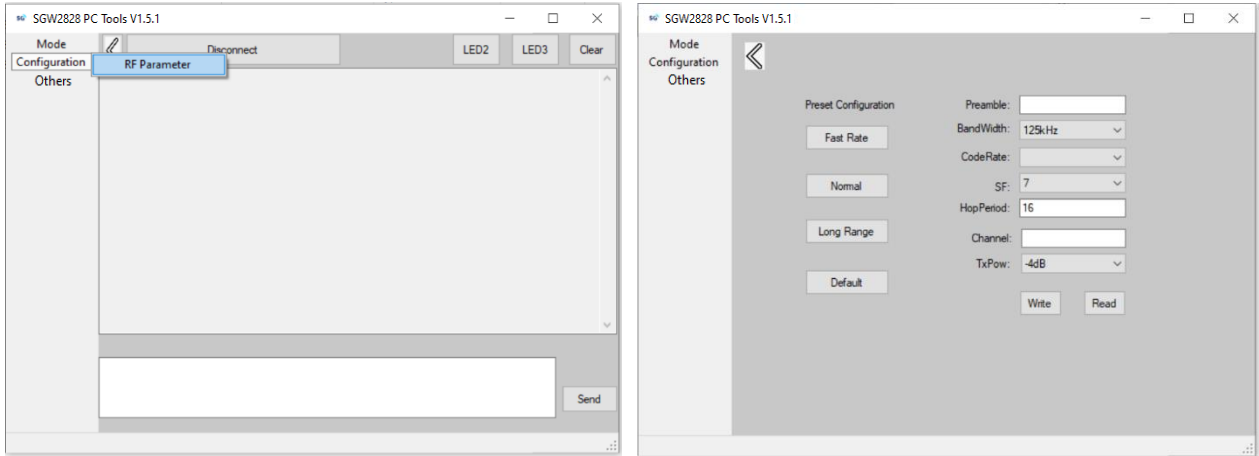

Figure 4: RF Parameter Configuration
2. Configure the RF Parameter, if needed. Users can use the default parameter settings or configure their own at Menu > Configuration > RF Parameter (Figure 4). Data transmission is enabled when **users use the same parameter settings.**